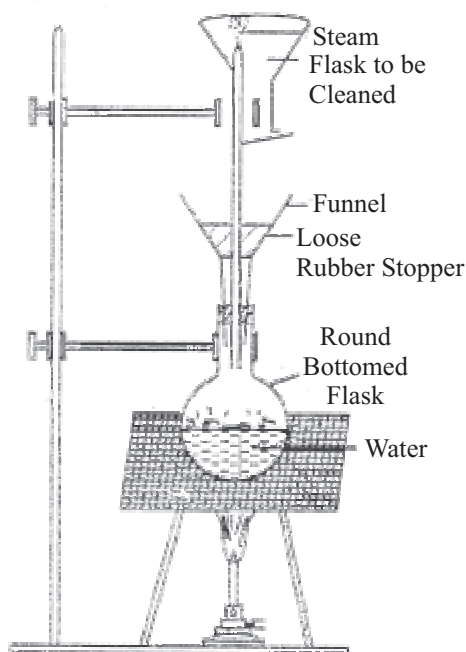

Fig. 5.1: Cleaning of the conical flask by steaming out process.
- (i) *Cleaning of the conical flask.* The apparatus is set up as shown in the Fig. 5.1. Distilled water is taken in a round bottomed flask fitted with a funnel in its mouth. A glass tubing passes through the funnel and is held